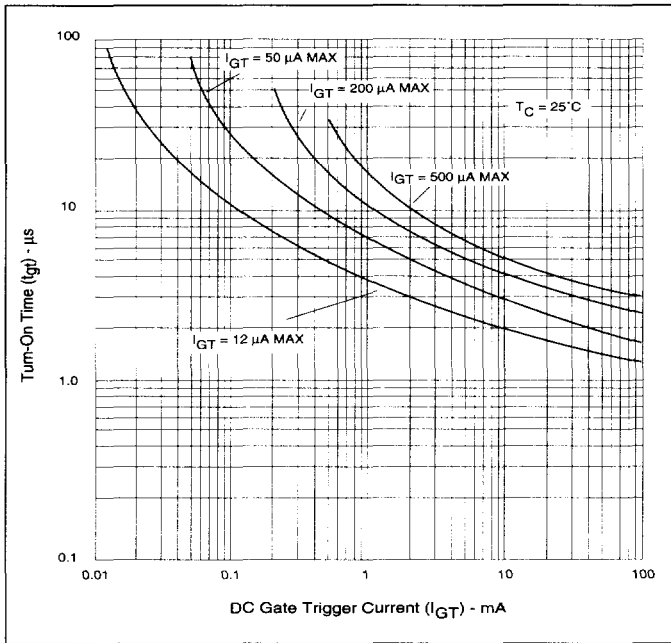

Figure 5.15 Typical Turn-On Time vs Gate Trigger Current
- See Figure 5.15 for t_{GT} vs I_{GT} .